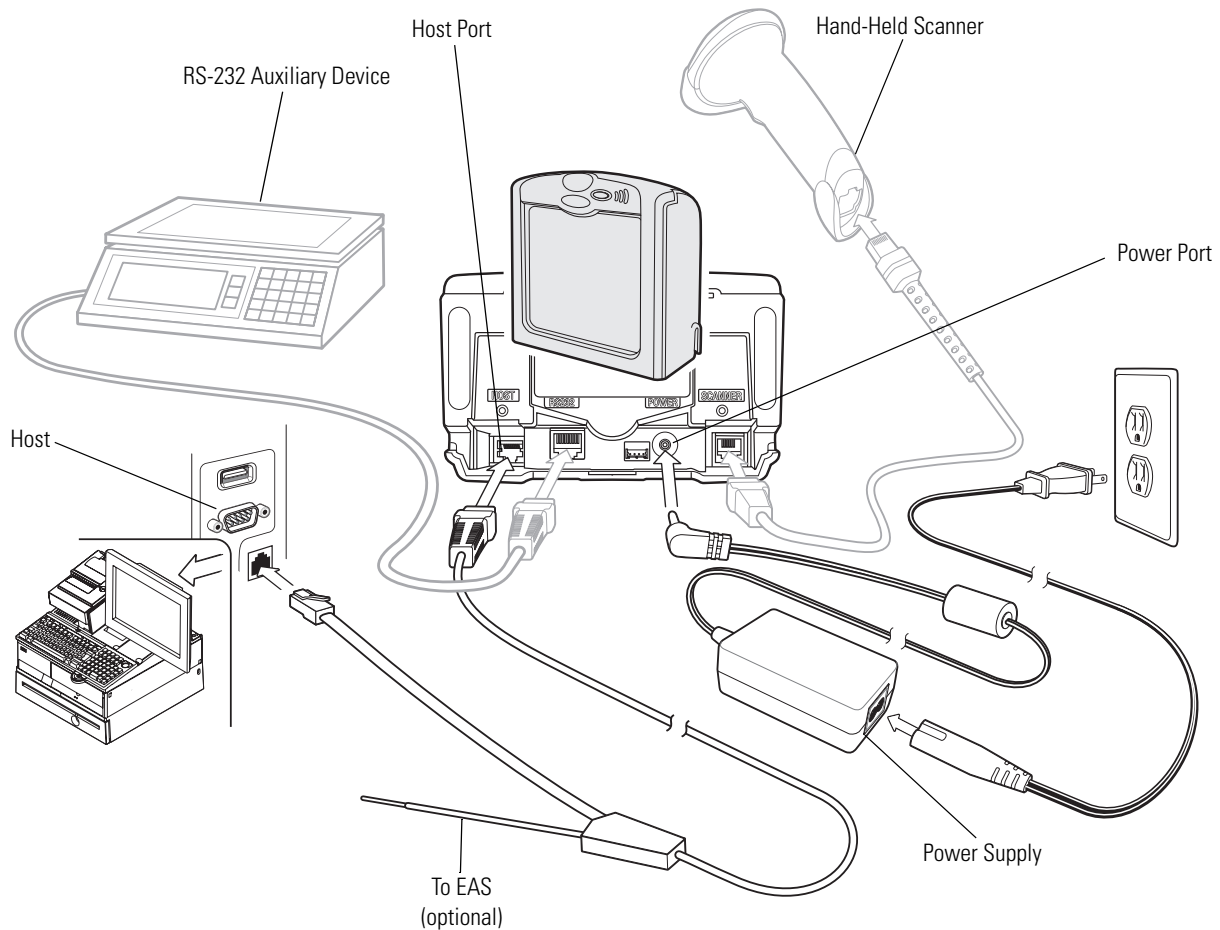

Figure 8-1. IBM Connection - Power Supplied Externally, with or without Peripherals
3. Connect the peripherals, if any, to their respective ports (see Figure 8-1).